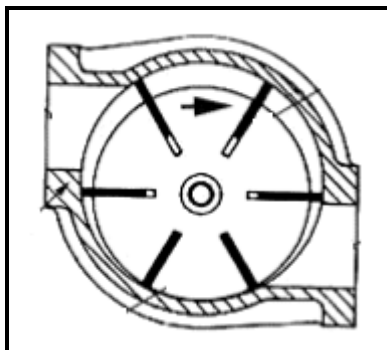

FIGURE 4.3
- 4.3 Identify the type of supercharger shown in FIGURE 4.3 below.